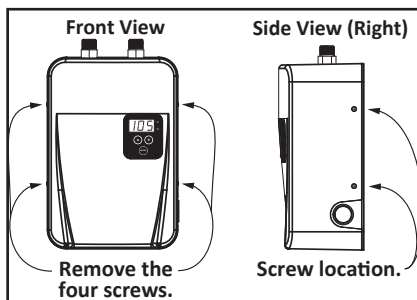

Figure 16 - Accessing Point-of-Use Control Board
- 5 Use a Phillips screwdriver to remove the four screws securing the front cover. Remove the heater's front cover. See Figure 16.